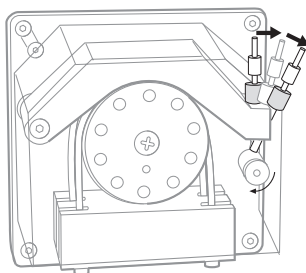

Figure B-11. Opening the tube clamp. To completely open the clamp, flip the lever to the second position, until it touches the compartment wall.
4. When instructed, open the right door and open the tube clamp of the peristaltic pump to relieve the pressure on the pump tubing (see Figure B-11 below).